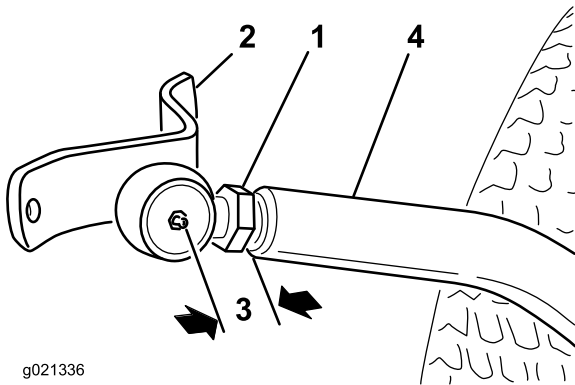

Figure 5
1. Thread the jam nut fully onto the right-hand ball joint (Figure 5).